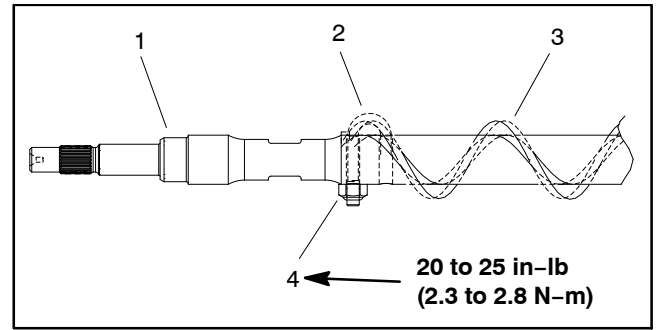

Figure 48
2. If roller brush was removed from roller shaft, slide brush onto shaft while rotating brush. Secure brush to shaft with two (2) J-bolts and lock nuts. Make sure that the J-bolts are installed with the threaded portion on the outside of the brush (Fig. 48). Torque lock nuts from **20 to 25 in-lb (2.3 to 2.8 N-m)**.